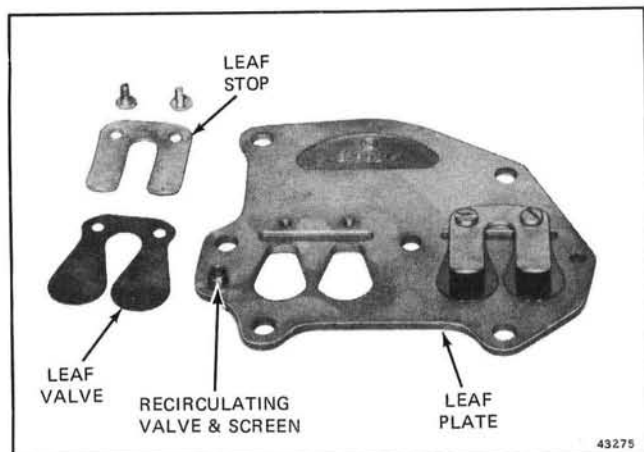
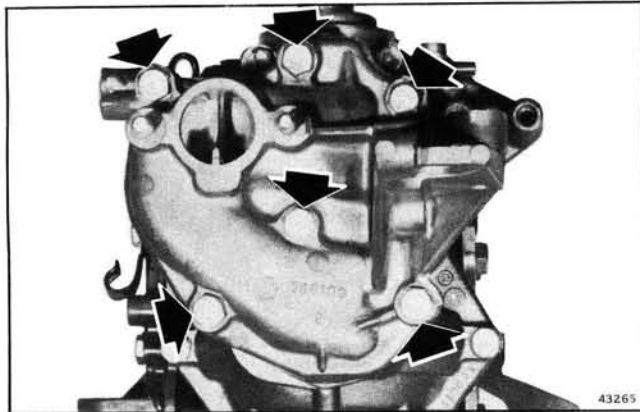

Figure 3-2. Leaf Valve Assembly
Figure 3-11. Intake Manifold Screws (Six)
The leaf valves time the injection of the fuel mixture into the crankcase by opening only when the pressure in the crankcase has dropped to a predetermined point on the compression stroke. See Figure 3-2.
a. Remove six intake manifold screws and remove manifold. See Figure 3-11. Remove leaf plate and gasket from crankcase. See Figure 3-2.